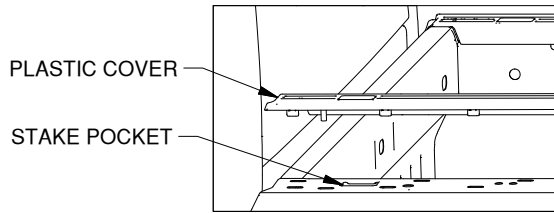

Figure B1: View looking at back of cab.
1. **Remove plastic bed covers.** Installation of the mounting hardware for the bed protectors require access to the forward stake pockets. Remove both plastic bed covers. Each cover is secured with plastic "clips" and can be detached by pulling up on the plastic, see Figure B1. Keep each cover to replace after the mounting hardware is installed.